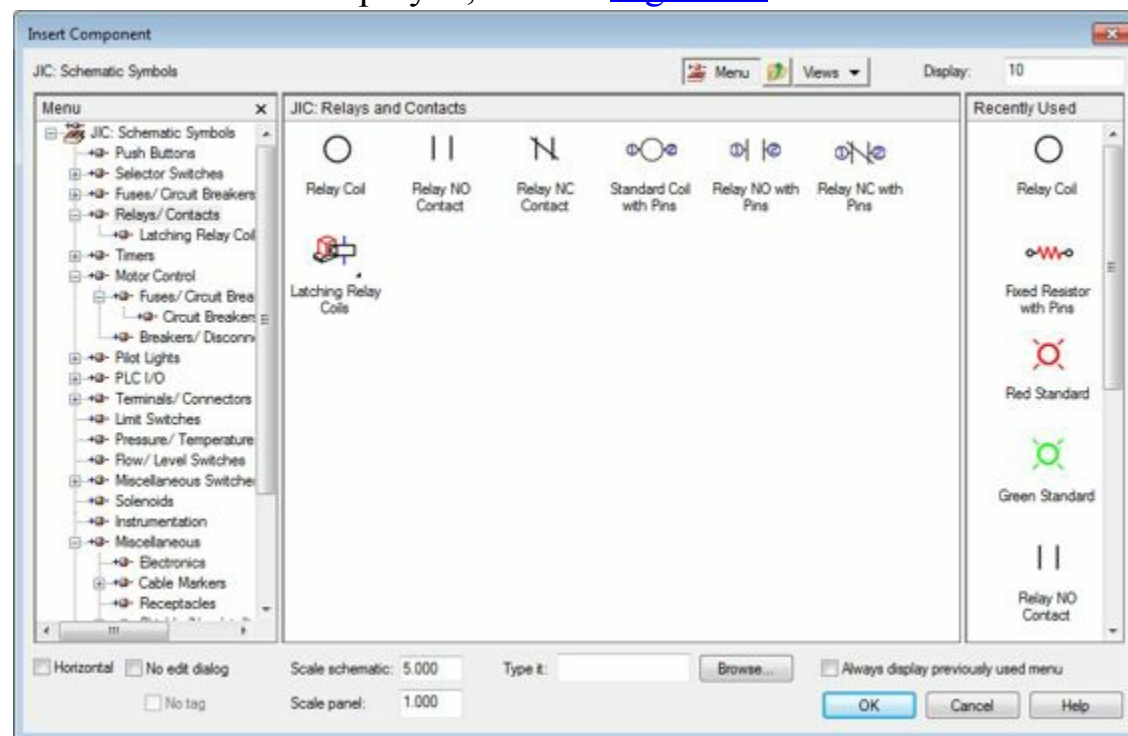

Figure-40. Insert Component dialog box with Relay and Contacts
- Click on the **Relays/Contacts** category from the dialog box. The components related to relays and contacts will be displayed; refer to Figure-40.